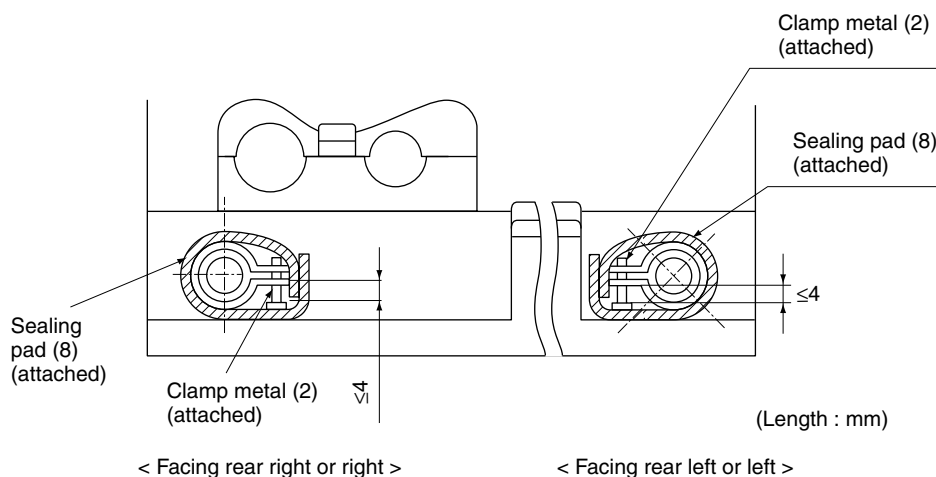

Fig. 23
Tighten the clamp until the screw head is less than 4 mm from the hose. **(Refer to Fig. 23)**
- Wrap the attached sealing pad (8) over the clamp and drain hose to insulate. **(Refer to Fig. 23)**